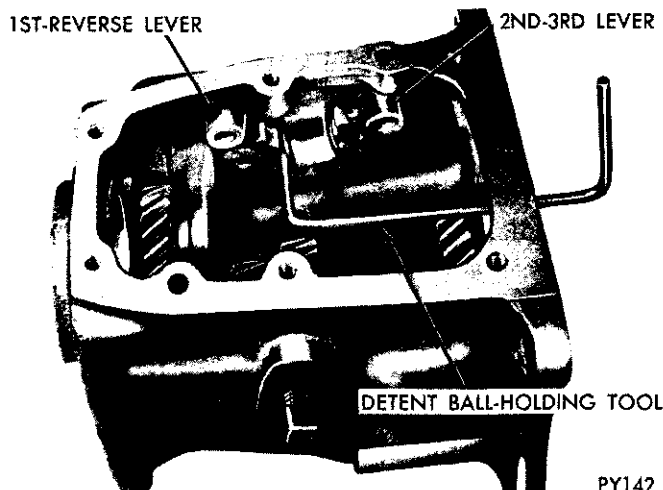

Fig. 27—Installing Shift Levers and Detent
(1) Place new shift lever shaft seals in their bores in the case. Using Tool C-3766, drive seals into case, until tool bottoms.
(2) Install seal protector, Tool C-3767 on end of low and reverse lever shaft, then slide shaft into rear boss of case and through the seal. Lock in position with tapered pin. Turn lever until center detent is in line with interlock bore.
(3) Slide interlock sleeve in its bore in case followed by one of the interlock balls. Install interlock spring and pin.
(4) Place remaining interlock ball on top of interlock spring, using Tool C-3765 (Fig. 27). (A good method of installing second ball is to stick ball in the tool recess by means of lubricant, then use tool to position ball on the detent spring.)
(5) Install seal protector Tool C-3767, on second and high lever shaft. Depress interlock ball, using Tool C-3765 and at same time install second and high lever shaft, with center detent aligned with detent ball. Remove the tool. Secure lever shaft with remaining tapered pin.
(6) Install operating levers and tighten retaining nuts to 18 foot-pounds.